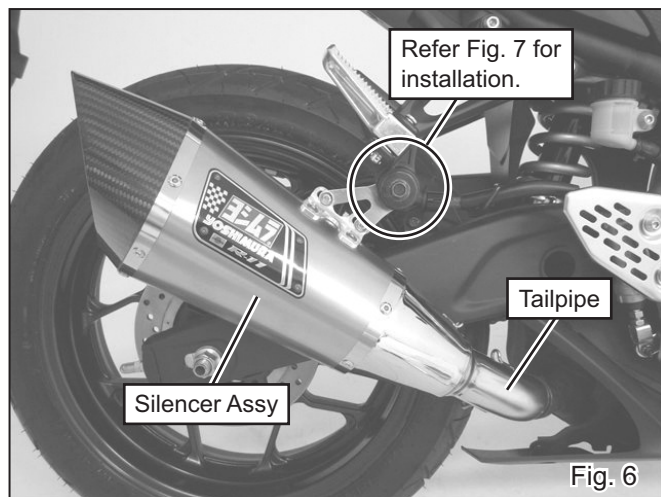

Fig. 6
- 7) Install Silencer Assy and Tailpipe (assembled at Step. 6) to stock tailpipe (See Fig. 6). Tighten the bolt on stock clamp band by hand only at this stage.
- 8) Fix Silencer Assy on passenger footpeg bracket with stock bolt, washer and nut (see Fig. 6 & 7 on next page). Tighten bolt by hand only at this stage.
- 9) Check from back and adjust clearances between Yoshimura slip-on and other components such as swing arm. Tighten and torque clamp band, Button Bolt M6x25 and bolt on stock silencer bracket in the order (See Fig. 6 & 7).